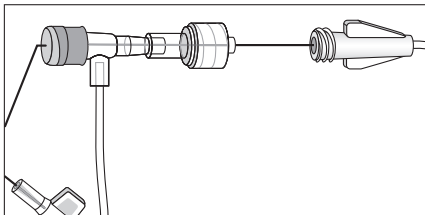

Figure 27
**⚠ Warning:** Remove placement wire and Luer-Lock sidearm assembly as a unit (refer to Figure 27). Failure to do so may result in wire breakage.